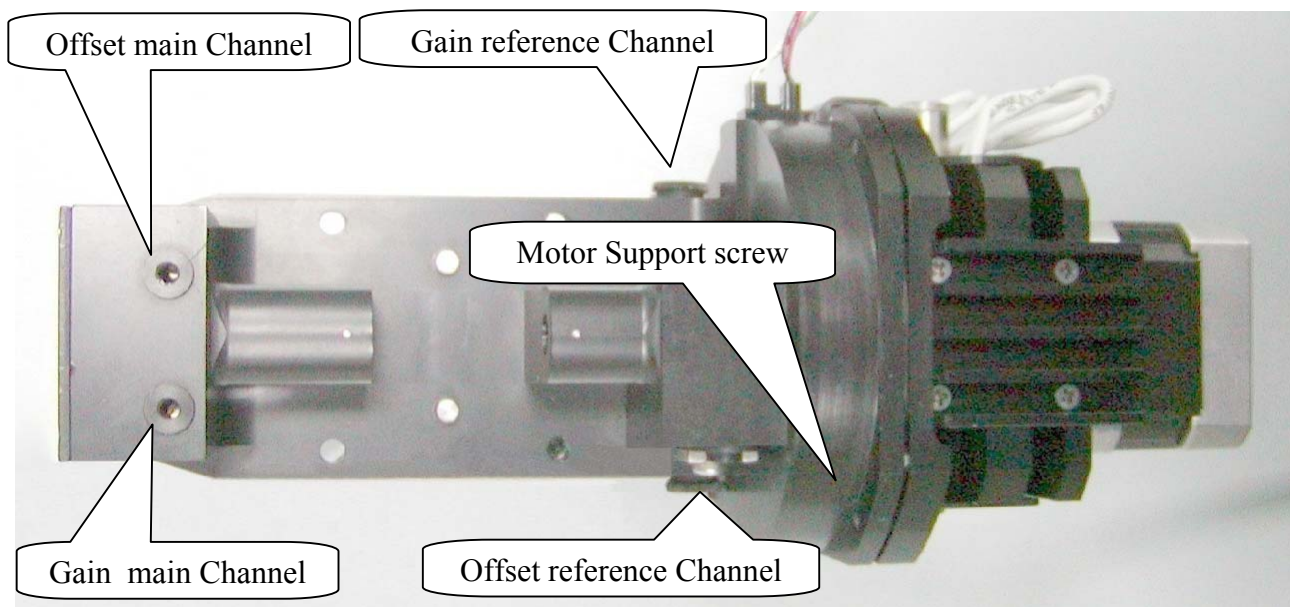

Fig. 49 Optic Assembly – top view
10. Click on "Start Sample Channel Conversion" key and make sure that the adjacent window shows a count value of 100 ± 50 . If not, adjust the Preamp/ADC (Read Channel) Board "Offset" trimmer in order to set the desired value (Fig. 49).
12. Click on "Start Reference Channel Conversion" and make sure that the adjacent window shows a count value of 100 ± 50 . If not, adjust the Preamp/ADC (Ref. Channel) Board "Offset" trimmer in order to set the desired value (Fig. 49).
15. Verify in the adjacent window a count value between 55.000 and 60.000. If not, adjust the Preamp/ADC board "Gain" trimmer in order to set the desired value (Fig. 49).
17. Select the highest signal filter, clicking on "Start Reference Channel Conversion" and make sure that the adjacent window shows a count value between 38.000 and 42.000. If not, adjust the Preamp/ADC board "Gain" trimmer in order to set the desired value (Fig. 49).
8. Unscrew the four fastening screws on the motor support in order to access the filter wheel (Fig. 49).
8. Unscrew the four fastening screws on the motor support in order to access the pulley (Fig. 49).